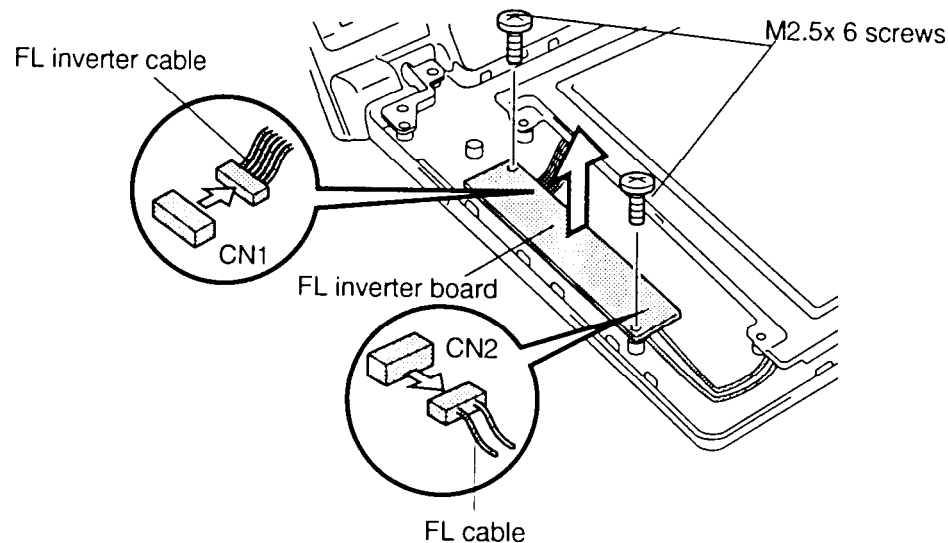

Figure 4-28 Disconnecting the FL inverter board
To remove the T2130CT's FL inverter board, follow the steps below and refer to figure 4-28.
4. Rotate the FL inverter board out of its seating and disconnect the **FL inverter cable** from **CN1** and the **FL cable** from **CN2** on the **FL inverter board** (figure 4-28).
To install the T2130CT's FL inverter board, follow the steps below and refer to figure 4-28.
1. Connect the **FL inverter cable** to **CN1** and the **FL cable** to **CN2** on the FL inverter board (figure 4-28).
3. Secure the **FL inverter board** with **two M2.5x6 screws** (figure 4-28).